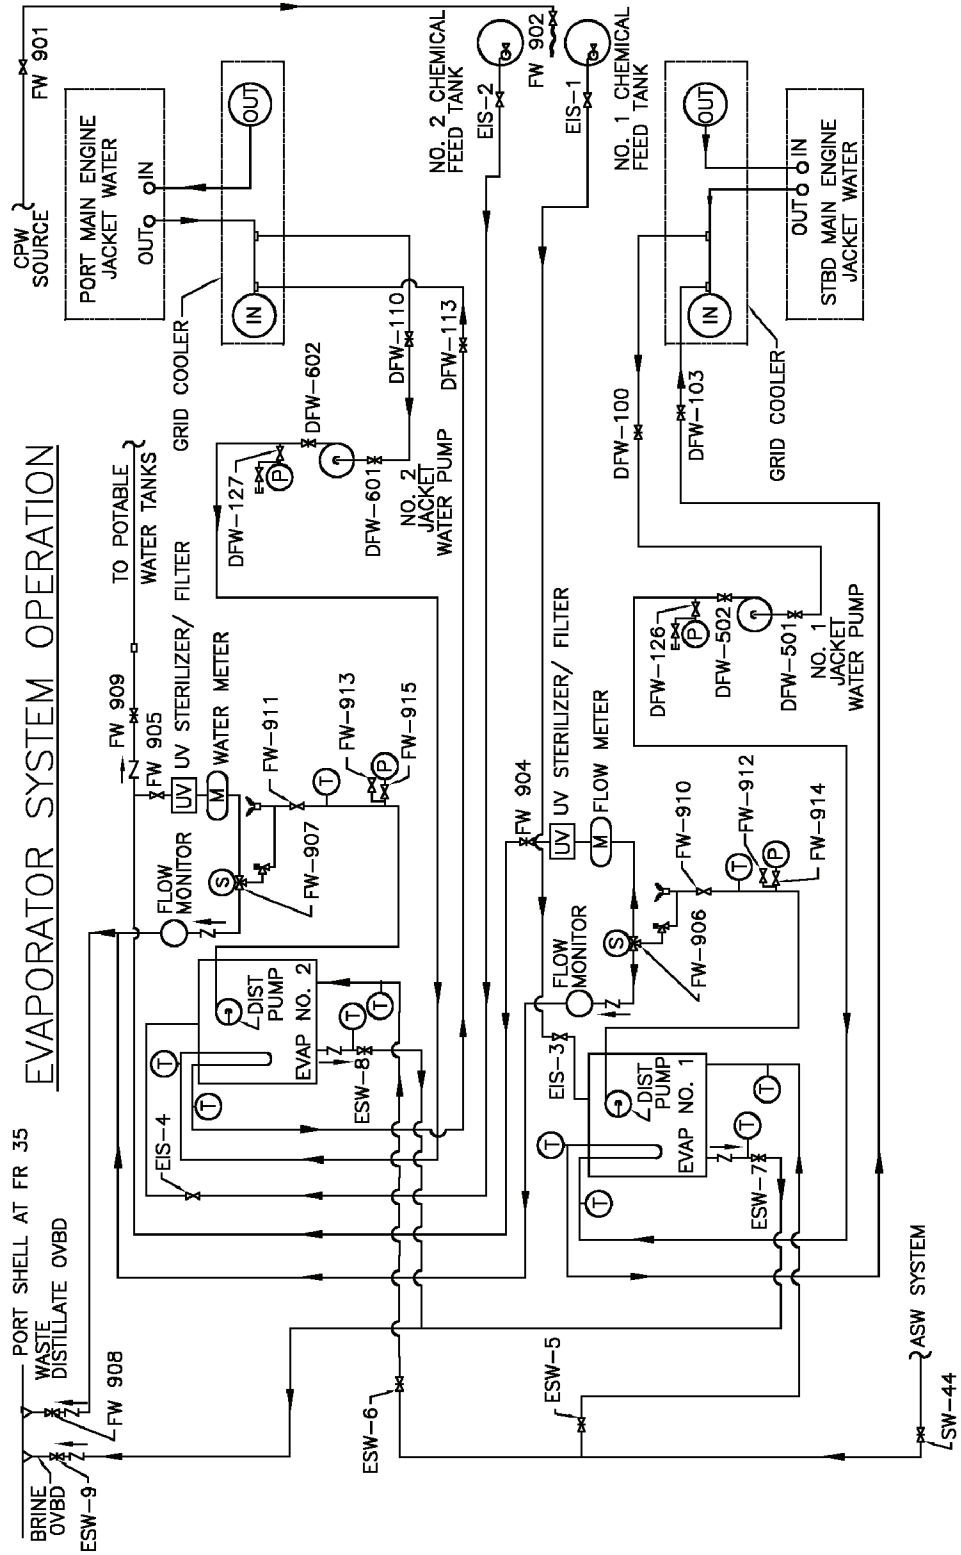

Figure 2-1. Waste Heat Evaporator Valve and Piping.
- (1) Inspect piping system to include all fittings for serviceability.
- (2) Check chemical injection system for serviceability. Mix cleaning solution as described in Paragraph 2-4.
- (3) Inspect ultraviolet (UV) sterilizer (Figure 2-1) for serviceability.
- (4) Inspect salinity cell and power panel for connections, power, and serviceability.
- (5) Inspect jacket water pumps for leaks.
- (6) Inspect distillate freshwater pump (Figure 2-1) for leaks.
- c. Startup Procedures. (Figure 2-1).
- a. Normal Shutdown (Figure 2-1).
- (1) Turn off UV Sterilizers 1 and 2 at local power switches and circuit breakers at P103.
- (2) Turn off Salinity Control systems at panel On/Off switch, at engine room power panel P103 and set Salinity Control system breakers to OFF.
- (3) Stop Distillate pump by pressing Stop push button. Secure valves FW 909, and FW 908:
Fully open distillate discharge valve FW-908 (Figure 2-1).
Inspect seawater pressure gauge, throttle SW-44 (Figure 2-1) to maintain pressure.